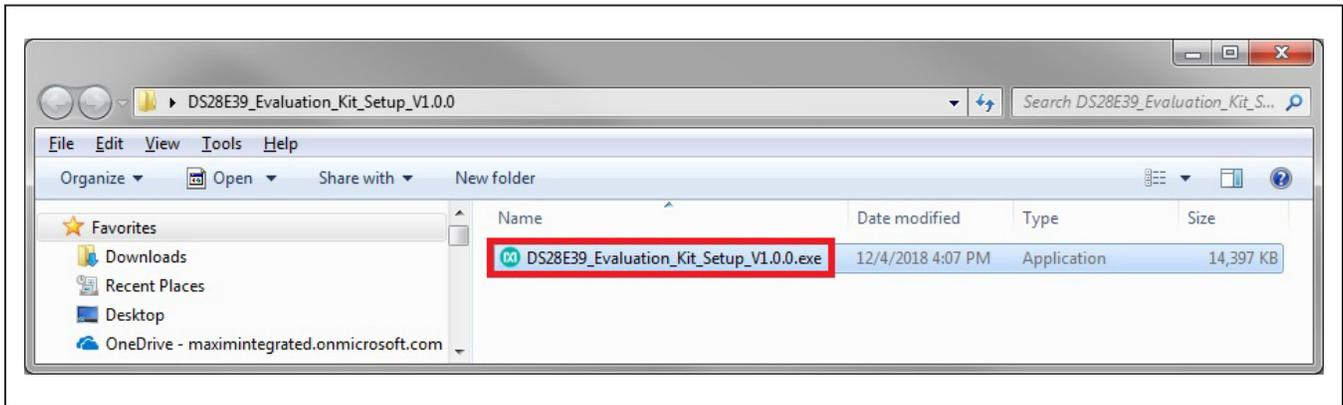

Figure 1. File Viewer
2) In a file viewer (Figure 1), double click on DS28E39_EV_Kit_Software_Setup_V1.0.0.exe to begin the installation.